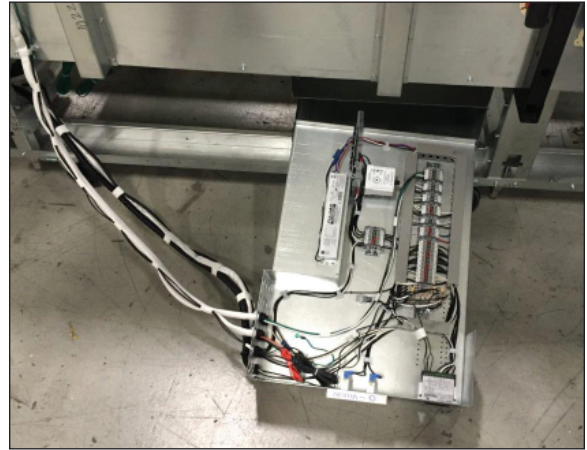

Fig. 8 Power supply box
1. Depending on the length of the case; the power supply box can be located at either the outside back center or outside back customer left (Fig. 8).